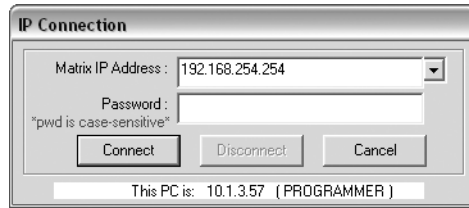

Figure 33. Address and Password Entry
3. If you selected IP [LAN] in step 2, the IP Connection dialog box appears (see figure 33).